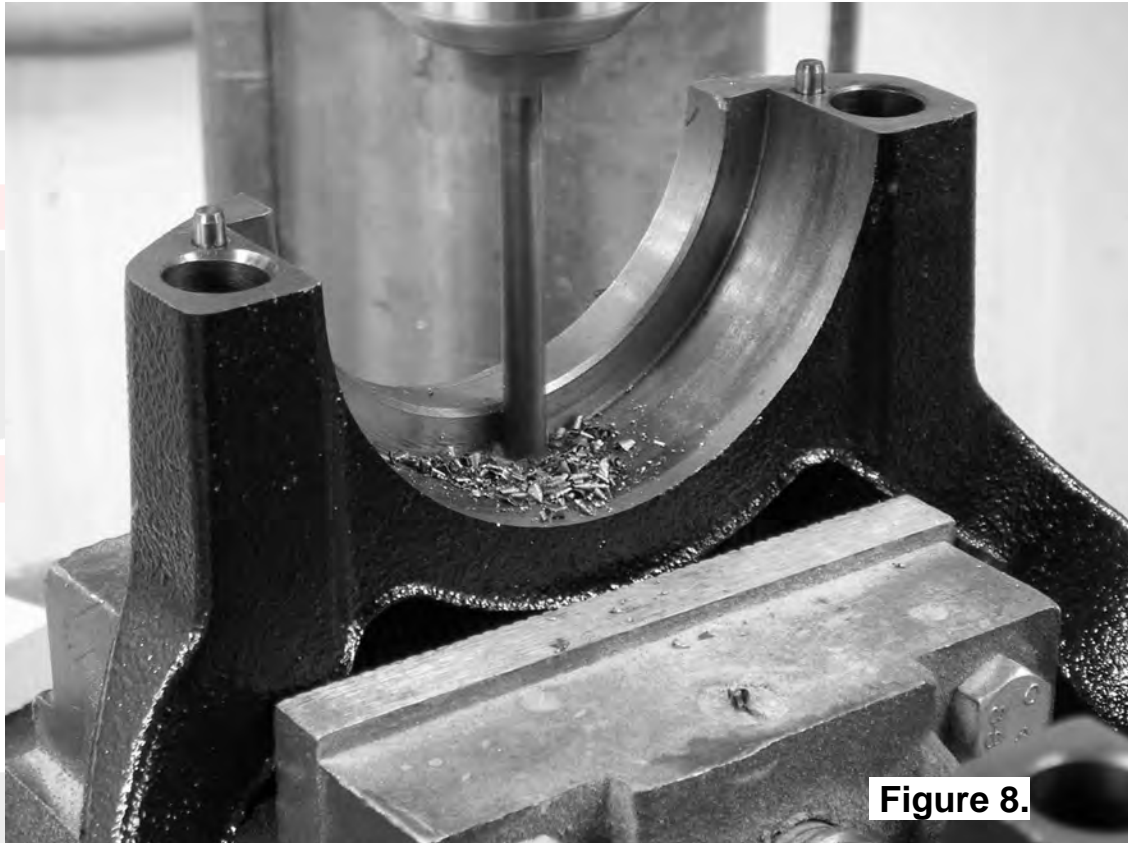

Figure 8.
- Using a pedestal drill, drill a 6mm [ $\frac{1}{4}$ "] hole through the bearing cap, in the position shown, so that the drill is against the edge of the bearing stop. (Fig.8.)